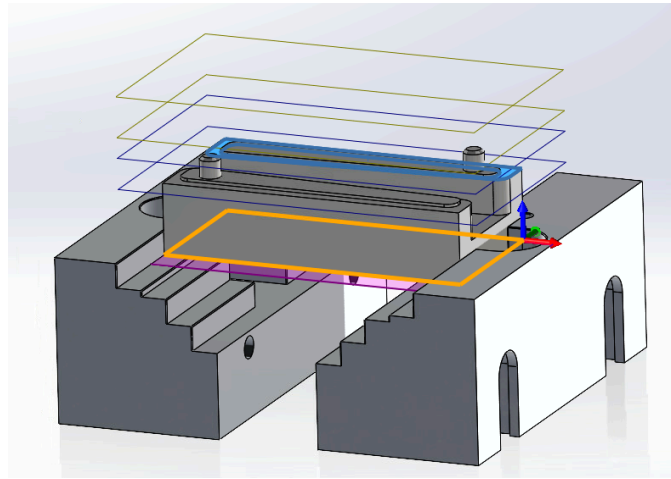

Figure 13 : Stock Setup and Toolpath Heights in Fixture Assembly
- Bottom: From Selection - choosing upper face of center body (fig 13): 0in